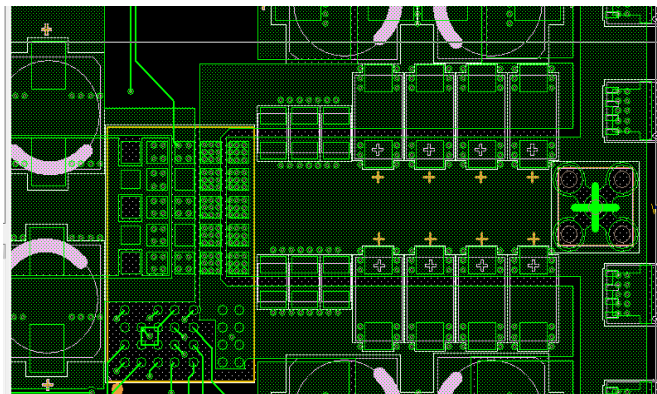

Figure 30a. Top layer (single)
- Use large on-pad filled-via array to distribute current into different layer. Evenly distribute current into different layer, see Figure 30a